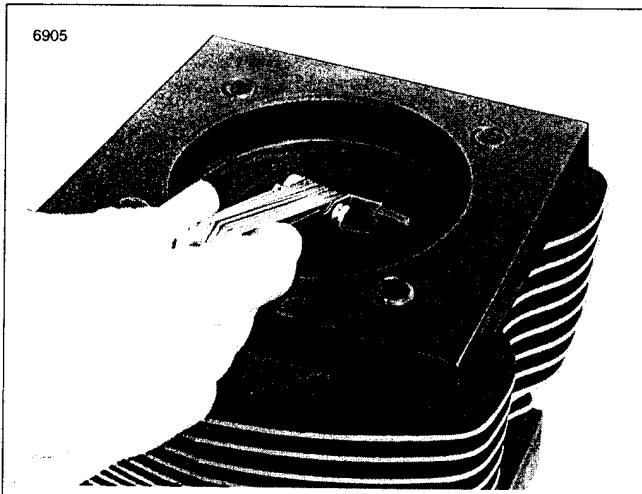

Figure 3-118. Measure Ring Gap
- See Figure 3-118. Check ring gap before placing each ring on the piston. Insert the **new** ring into the cylinder and square it in the bore using the top of the piston. Measure the ring gap with a feeler gauge. Do not use the ring if the end gap does not fall within the specifications listed in Table 3-7.